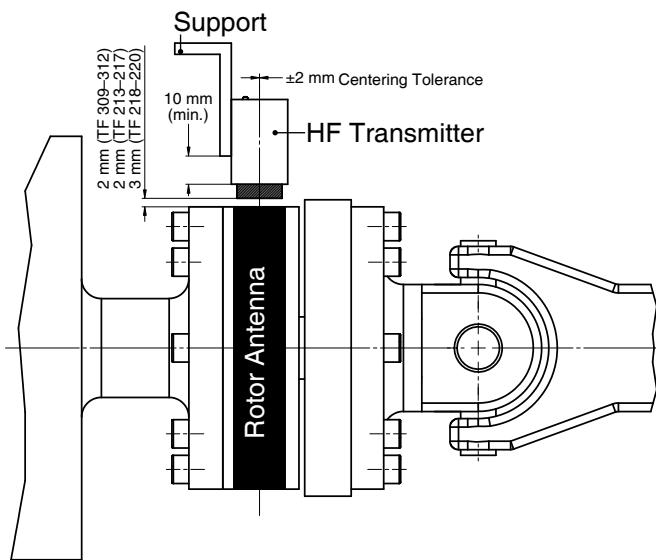

Figure 2–16 HF Transmitter Installation
- The HF transmitter must be mounted onto a support which can be easily adjusted both horizontally and vertically. To prevent any disturbance of the transmitted signal, the support must be at least 10 mm away from the HF transmitter rim (see *Figure 2–16 HF Transmitter Installation*). The support must also be stable in order to prevent excessive vibrating of the HF transmitter and, consequently, avoid electromagnetic coupling problems between the rotor antenna and the HF transmitter.